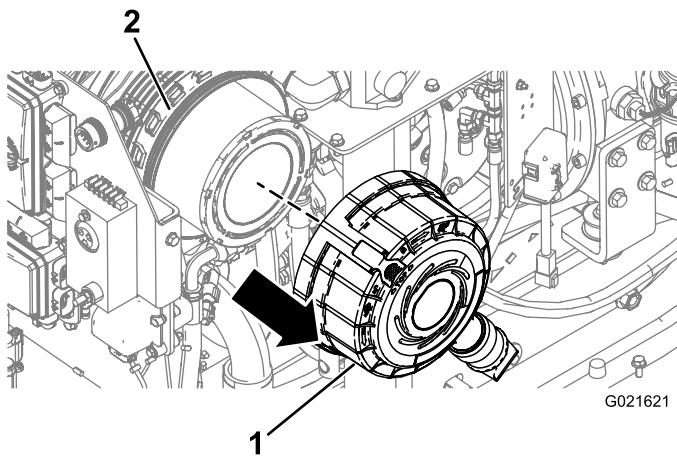

Figure 80
7. Pull the air-cleaner cover away from the filter housing and remove the cover (Figure 80).
3. Align the air cleaner filter cover with the filter housing (Figure 80).